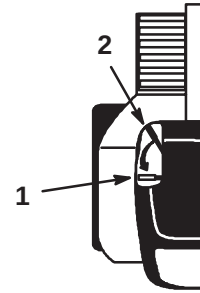

Figure 12
1. Pull the seat adjustment lever toward the rear to release the lock (Fig. 12).